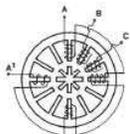

Figure 4: Hybrid Motor
**Hybrid** - Combining the qualities of the VR and the PM stepper motor design, the hybrid stepper motor has some of the desirable features of each. A hybrid stepper motor has high detent torque and excellent holding and dynamic torque. Additionally, the hybrid stepper motor can operate at high stepping speeds. Normally, hybrid stepper motors are designed with step angles of 0.9°, 1.8°, 3.6° and 4.5°; 1.8 degrees is the most common. Bi-filar windings are generally supplied (as depicted in Figure 4), so that a single-source power supply can be used in hybrid stepper motor systems. If the phases are energized one at a time, in the order indicated, the rotor would rotate in increments of 1.8 degrees.